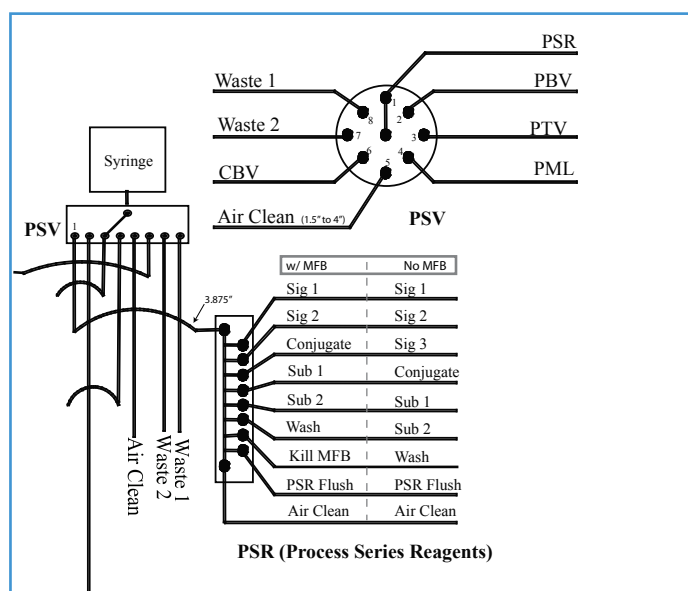

Figure 1-14: PSV and PSR, close up of ESP Fluidics Worksheet
The organization of the flow of reagents through the ESP is shown in the ESP Fluidic Worksheet. Figure 1-14 shows the portion of the worksheet containing information the Processing Syringe (PS) and processing series reagents. The valve leading to the processing syringe is called the Processing Syringe Valve (PSV), and the valve manifold for the reagents is referred to as the PSR (Processing Series Reagents).